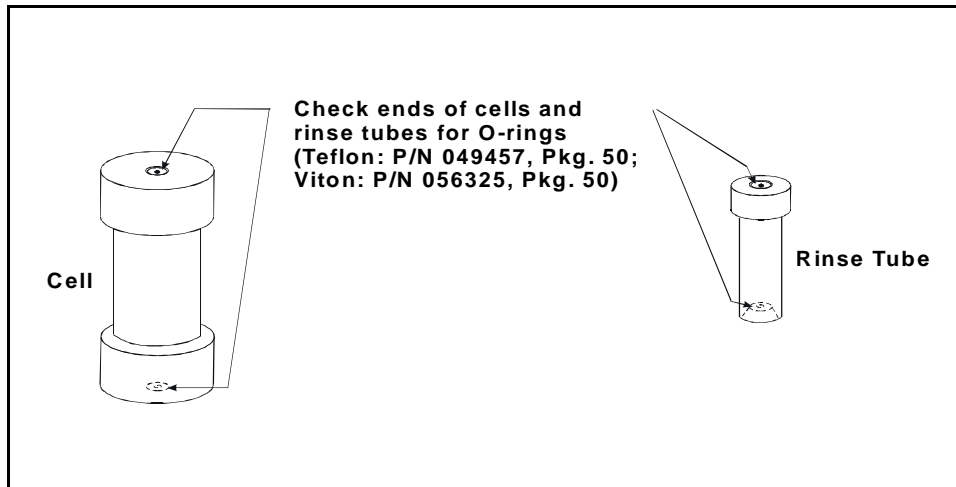

Figure 3-2. O-Ring Inspection
4. Check the ends of each cap to verify that the O-rings are in place and in good condition (see Figure 3-2). If the hole size of any O-ring is less than 0.5 mm, replace it. If a white Teflon O-ring is discolored, replace it.
2. Check the ends of each rinse tube to verify that the O-rings are in place and in good condition (see Figure 3-2). If the hole size of any O-ring is less than 0.5 mm, replace it. If a white Teflon O-ring is discolored, replace it.